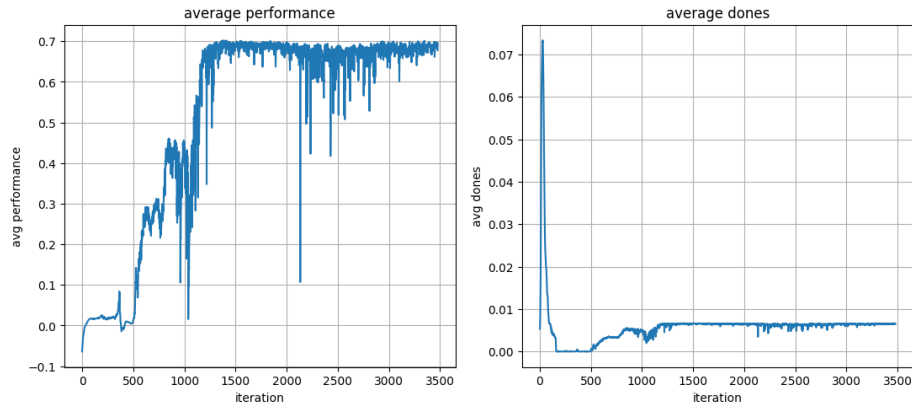

Figure 1: The plot of the training progress.
- The training progress (graph): Figure 1.